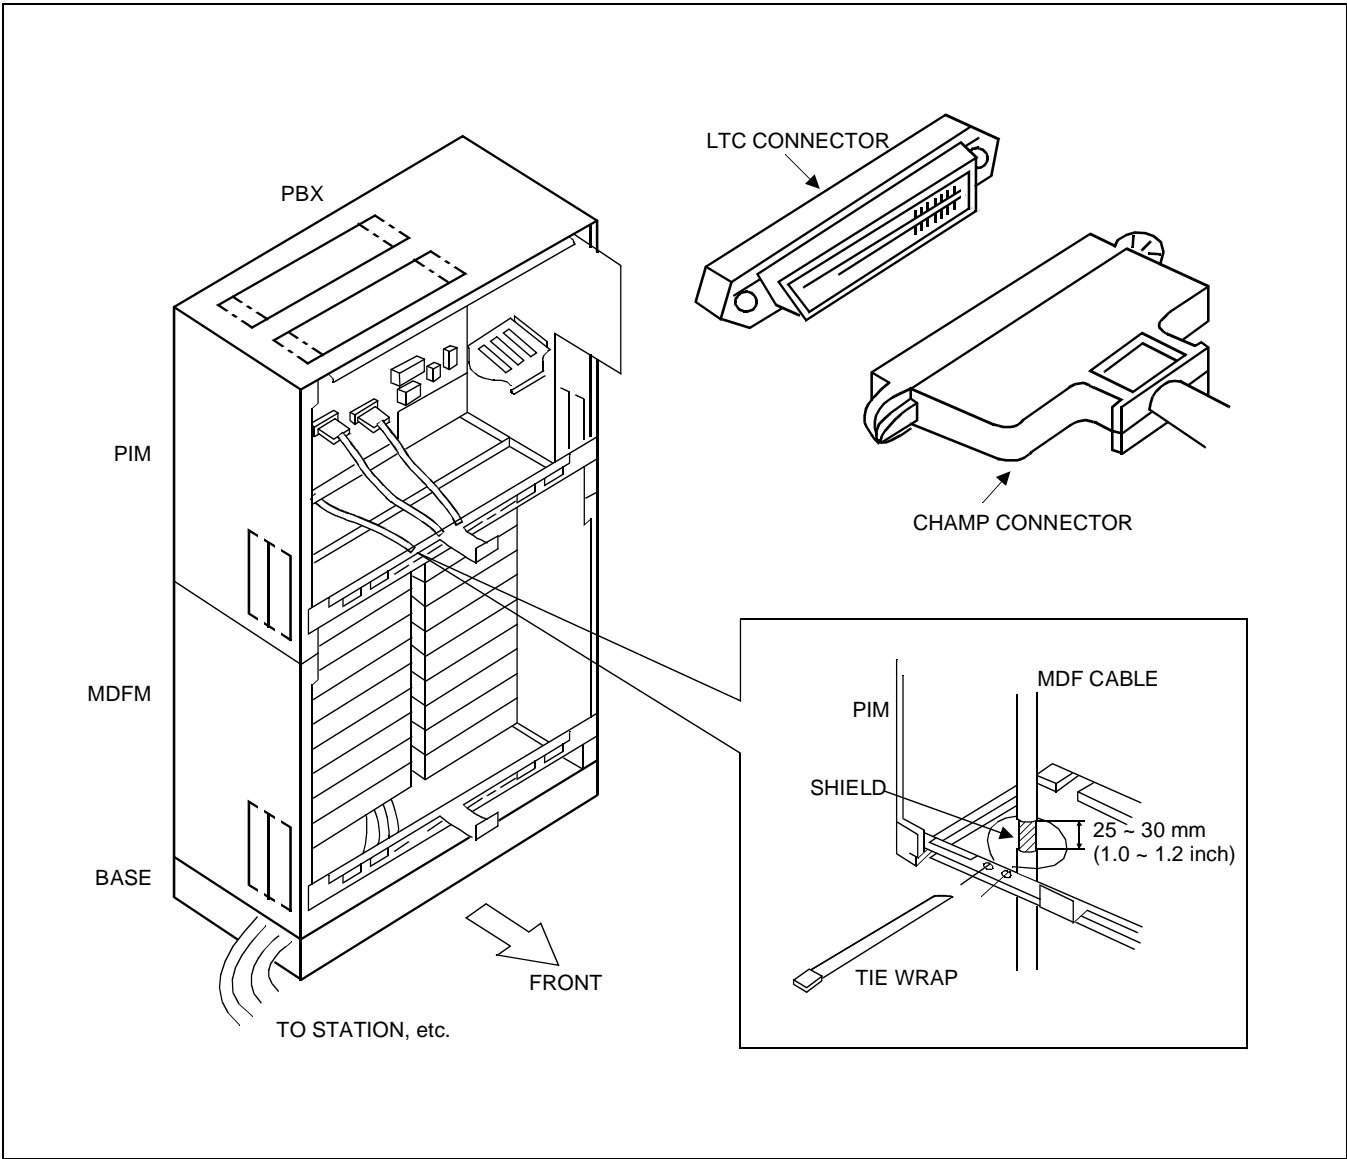

Figure 006-5 Cable Running to the MDFM
- (1) Connect the champ connector of each MDF cable to an LTC connector located on a PIM using the screws provided, as shown in Figure 006-5.
- (2) Pare the sheath of each MDF cable and secure the shield to the front bracket on the PIM using tie wraps, as shown in Figure 006-5.